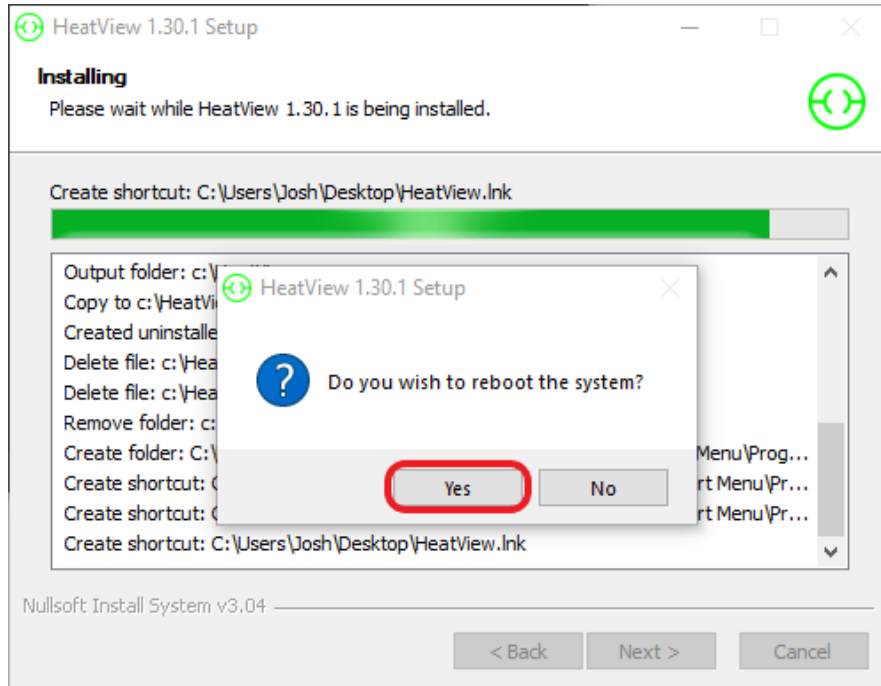

Figure 10: Installation – System reboot request
6. Once the system has successfully installed both the communication drivers and the HEAT VIEW controller software, it will ask you to reboot your system. If you are ready to do so, click ‘Yes’ – as highlighted in Figure 10 below. Otherwise, click ‘No’ and make sure you reboot your system before trying to run the software to avoid issues connecting to your HEAT VIEW controller.